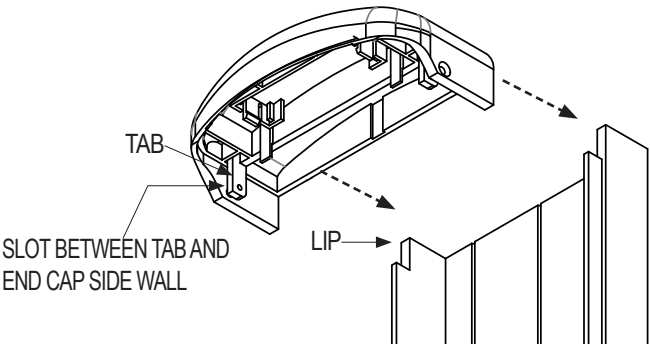

Figure 4.5 End Cap Alignment
- 16. Match and insert the Back Box Lips into the Slots between the End Cap Tabs and the End Cap Side Walls. (Figure 4.5)